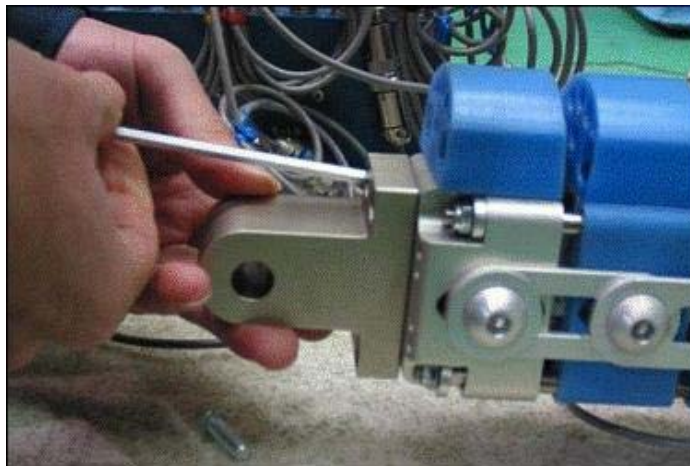

Figure 93 . Attaching Pendulum Rig Pivot hinge
Step 9: Remove the black protective cover (Part Nr 133 – 5516) from the tibia bottom and attach the Pivot Hinge (Part Nr 133-8418) as shown in Figure 93 using four M6 x 18 long screws.